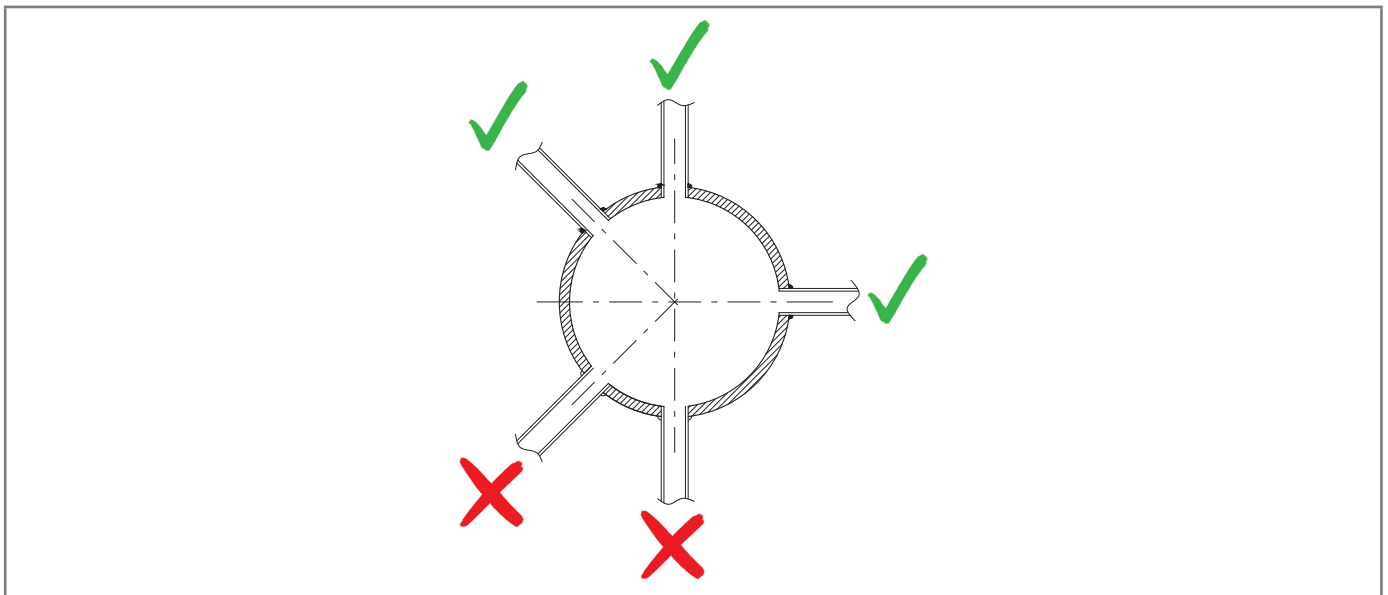

Fig. 6.18. Welded pipe connections
- the connections of the pneumatic connection are always welded to the top or horizontal axis of the pipe itself (refer to Fig. 6.18);